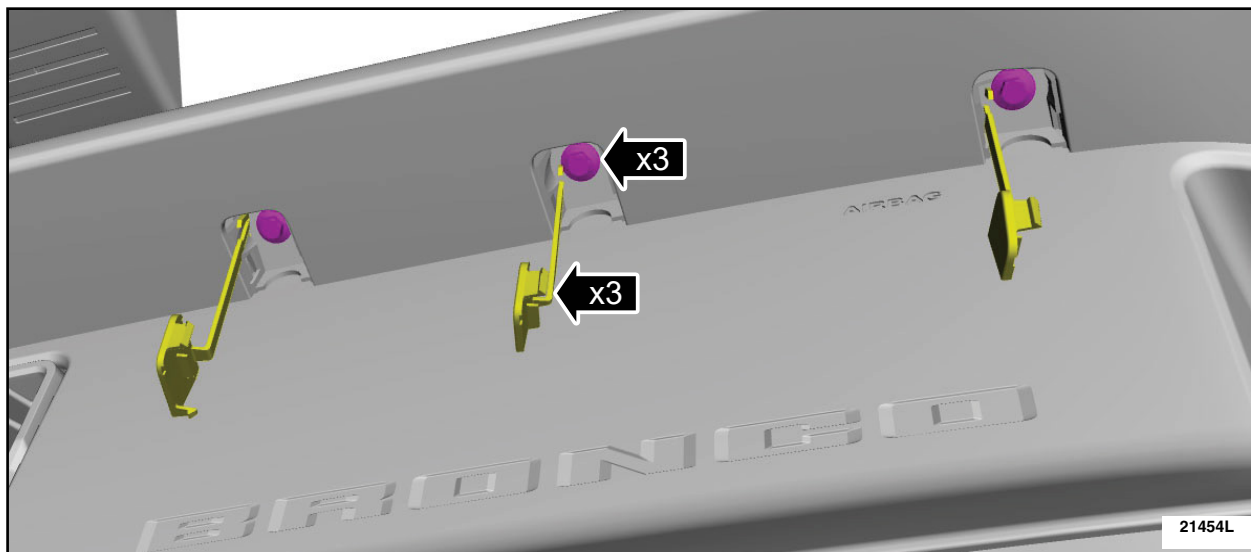

FIGURE 11
11. Position aside the bolt covers and remove the bolts. See Figure 11.